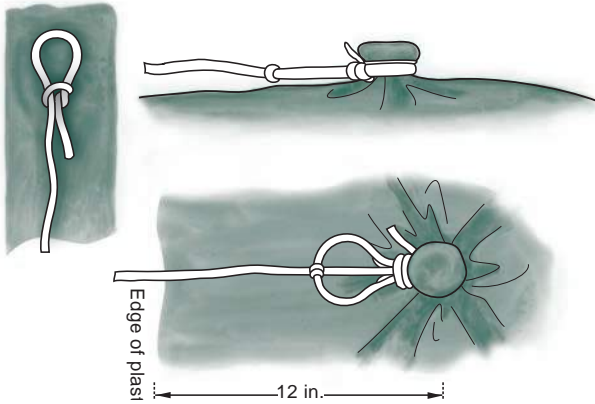

Figure 11: Plastic Tie-Down Buttons
**Team 3**-Use tie-down button and twine to secure the plastic to slope. Twine is tie off to the stakes using a minimum 250 lb. tensile strength twine. **(See Figure 11 on how to secure tie-down button to plastic).**
- Extend twine through bottom of large end of frame, tie a half-hitch knot around the end, and secure twine to stake (see Figure 11).